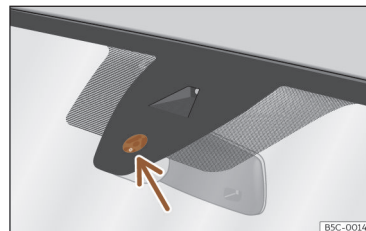

Fig. 113 Sensitive surface of the rain sensor.
The possible causes of anomalies and erroneous interpretations in the sensitive surface area >>> Fig. 113 of the rain sensor are, among others:
- **Dirt:** dry dust, wax, coating on glass (Lotus effect) or traces of detergent (car wash) may reduce the effectiveness of the rain sensor or make it react more slowly, later or not at all. Regularly clean the sensitive surface of the rain sensor >>> Fig. 113 (arrow) and check for possible damage to the wiper blades.